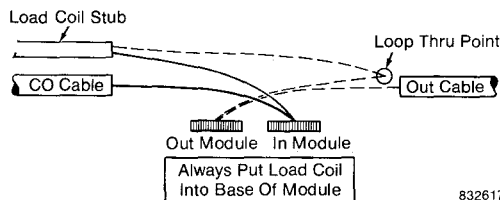

**Fig. 121—Prepare cable.**
- a. Prepare the cable following the standard procedure for an inline splice opening. The free conductor length from each **CO** jacket must be a **minimum** of 1½ times the splice opening. See Figure 121.